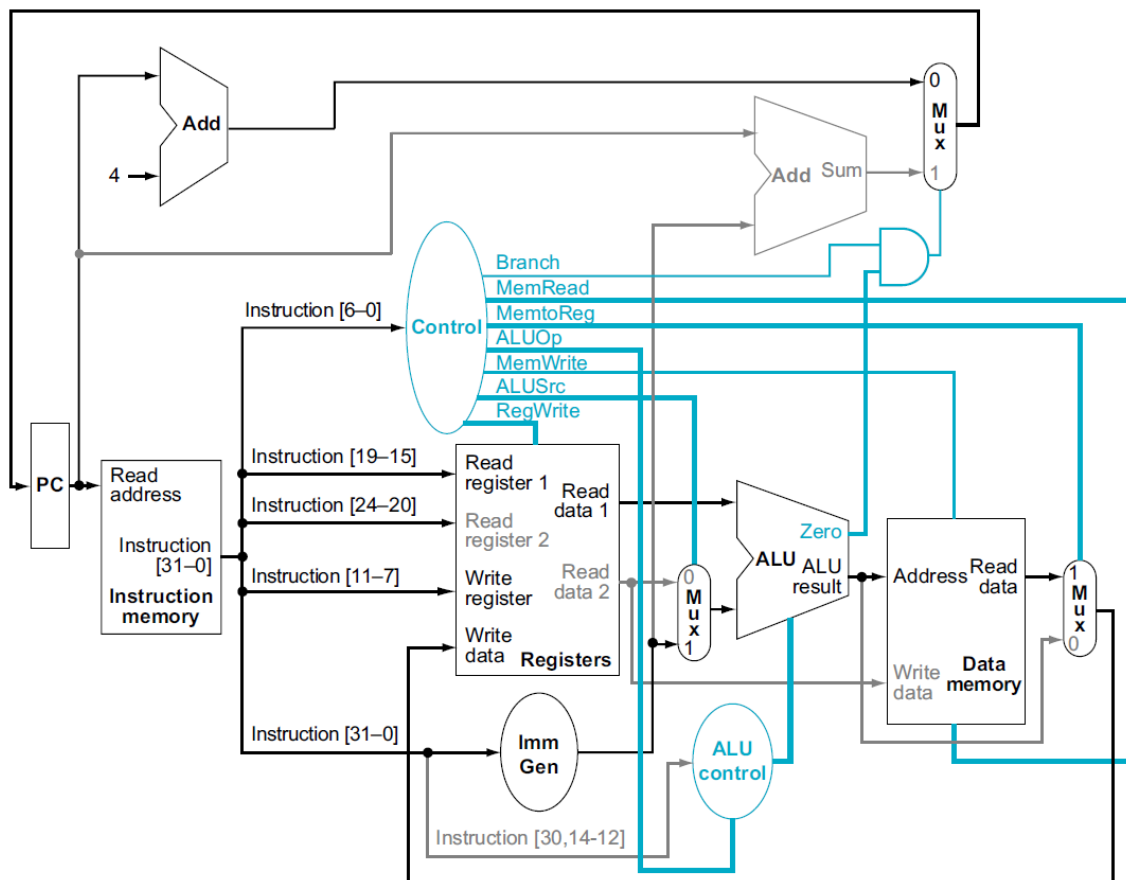

Figure 3: Datapath Exercise 3
Problems in this exercise assume that the logic blocks used to implement a processor's datapath (Figure 3) have the following latencies:
5. When processor designers consider a possible improvement to the processor datapath, the decision usually depends on the cost/performance trade-off. In the following three problems, assume that we are beginning with the datapath from Figure 3, the latencies from Question 1, and the following costs: